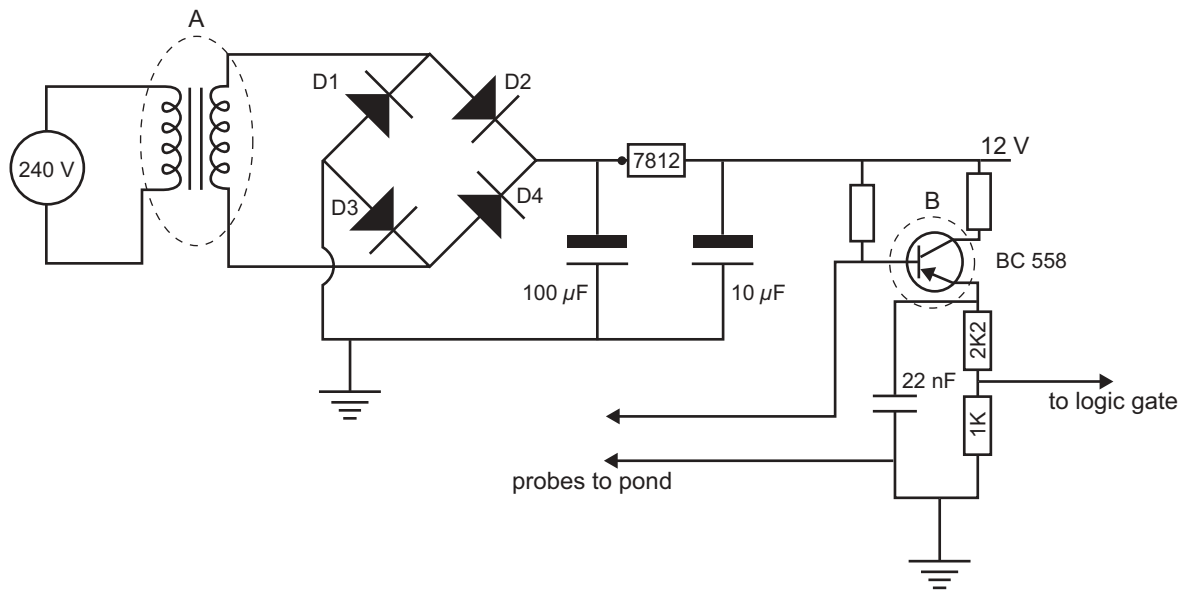

Figure 11
The circuit diagram shown in Figure 11 provides the power to the water level indicator.
- i. Name the following components that have been marked in Figure 11.
The diodes below provide the rectification in Figure 11. They are drawn differently here for easier understanding.